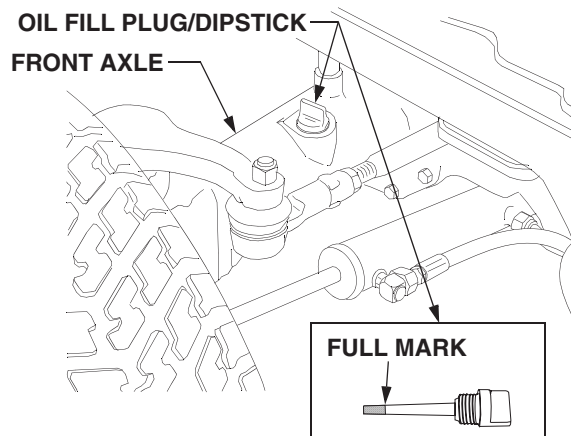
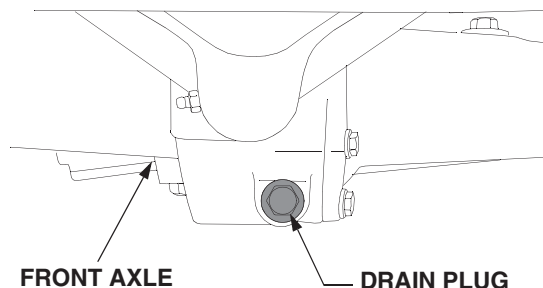

Figure 46
Figure 48
The oil fill plug/dipstick is located on the *left* side of the axle housing. See Figure 46.
- Clean the area around the oil fill plug/dipstick to prevent debris from entering the axle housing. See Figure 46.
- Withdraw the dipstick and wipe it clean, then reinsert and screw in all the way. Unscrew and withdraw again to read the oil level. Always keep the oil level between the bottom and the full mark of the dipstick (See Figure 46).
- To prevent debris from entering the front axle housing, clean the area around the oil fill plug/dipstick and the axle drain plug located at the center front of the axle. Refer to Figure 46 and Figure 48.
- Remove the oil fill plug/dipstick to help vent the axle, then remove the drain plug and allow the oil to drain into the container. Reinstall the drain plug after draining the oil. See Figure 48.